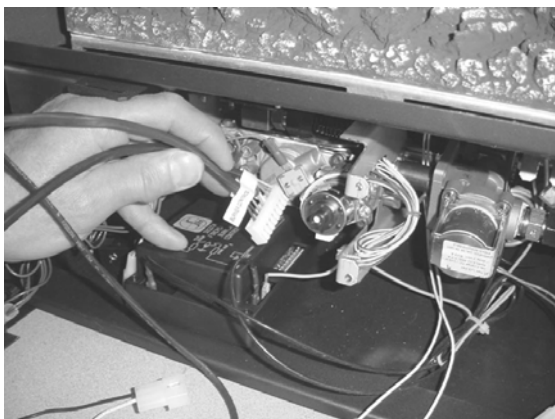
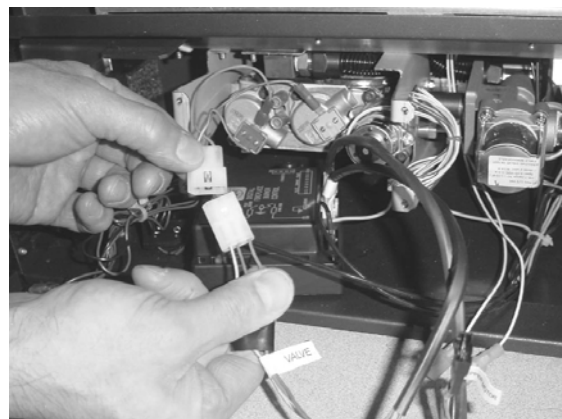

Figure 14
Figure 15
- 13 Attach the wiring harness to the burner control (see Figure 14). Attach the gas control valve molex connector (see Figure 15).